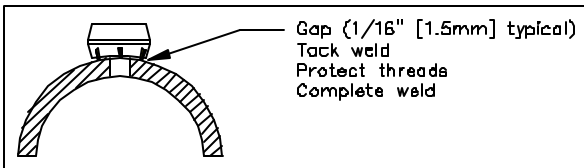

Figure 3. Weld Gap
- Using the appropriate weld gap (1/16" [1.5mm] typical), tack weld the mounting flange into position (Figure 3).